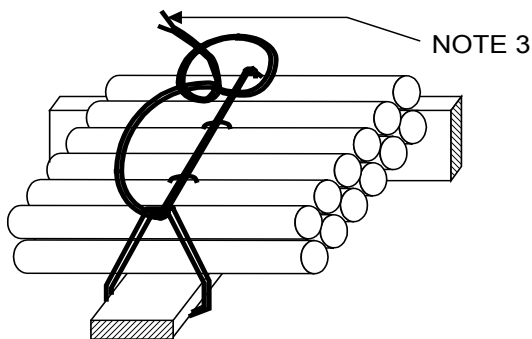

FIGURE 16c
3. LOOP END OVER TWINE AND BACK THROUGH LOOP (FIGURE 16c).